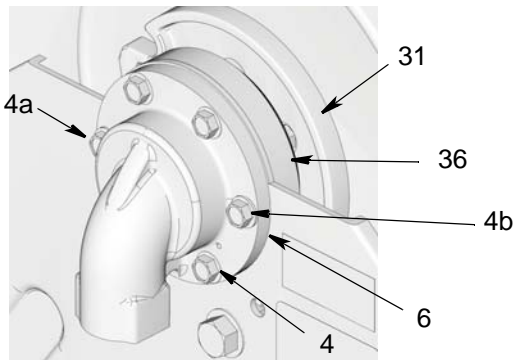

FIG. 39
- Position inlet (6) in the desired orientation on the base.
Medium Pressure Models ONLY: Align shim (36) between inlet (6) and ratchet (31) (FIG. 39).
- First install the side 2 bolts (4a and 4b) as shown in FIG. 39 through frame and inlet (6). Tighten bolts just enough to hold everything in place.
- Install the remaining bolts (4) (FIG. 39). Hand tighten and then torque all bolts to 13-16 ft. lbs (17.6-20.3 N.m).